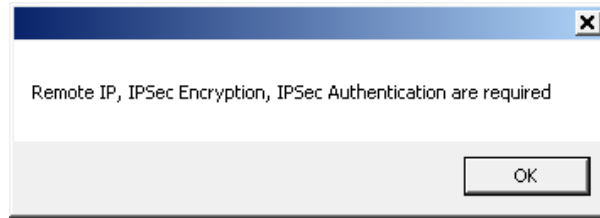

Figure 3-23 IPsec Configuration Error Screen
6. Select **Save All**. IPScom will display an Error Message alerting the user to any required settings which have not been entered (Figure 3-23).